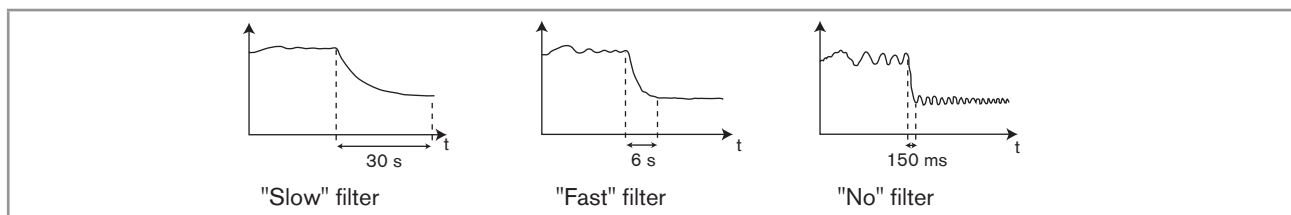

Fig. 23: Types of filters and associated damping effects
**FILTER:** Choose the level of damping of the input variables. See Fig. 23: *Types of filters and associated damping effects.*
**PV FILTER:** Choose the level of damping of the chosen process value. See Fig. 23: *Types of filters and associated damping effects*.
**PV FILTER:** Choose the level of damping of the chosen process value. See Fig. 23: *Types of filters and associated damping effects.*